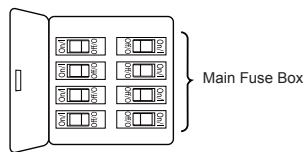

Figure 1
To avoid possible fire or shock, be sure electricity is turned off at the main fuse box before hanging. (Figure 1)
1. To set the code on receiver unit, slide dip switches to the same positions as set on the remote control. (Figure 1)